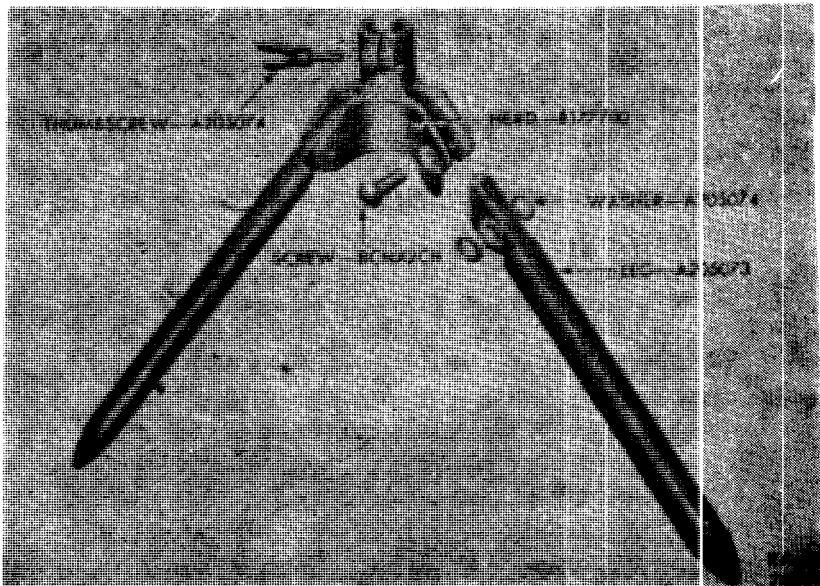

Figure 24-Tripod M14-Leg Assembly-Partially Disassembled
b. Disassembly of the Leg Assembly. Remove the screws BCNX2CH that hold the legs to the head (fig. 24). Remove the washers. Pull the legs from the head.